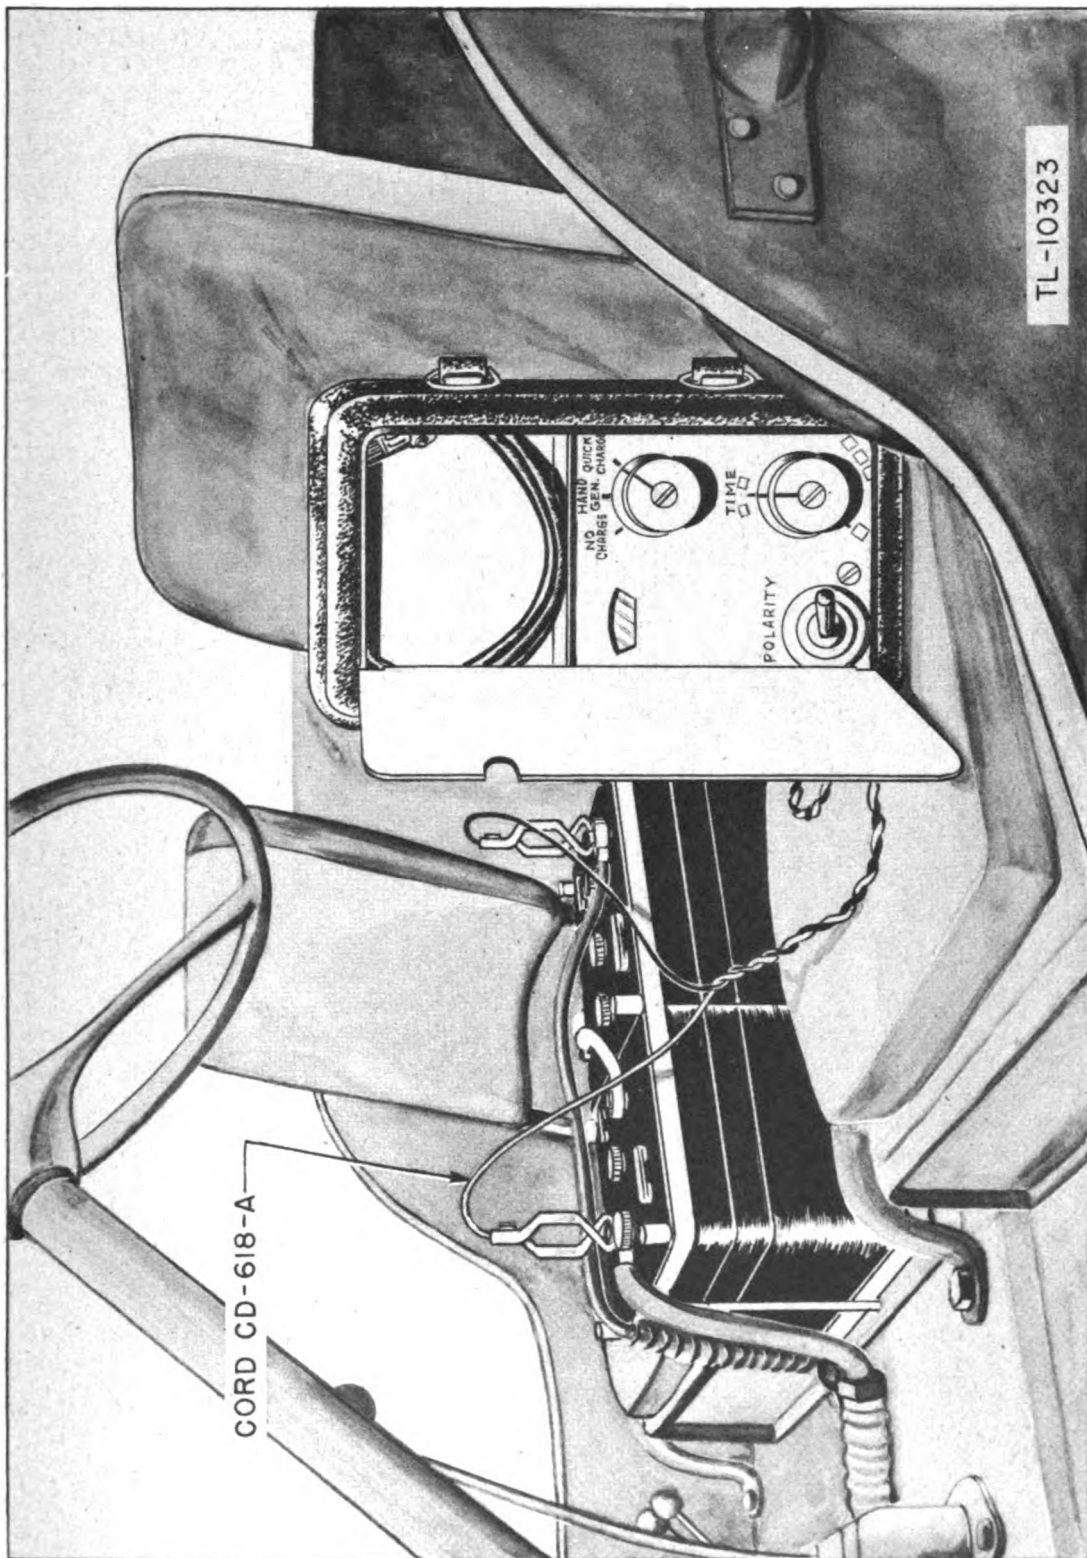

Figure 32—Charging Vibrator Power Supply PP-39/TRC-2 from Vehicular Storage Battery
Battery BB-54-A (inside of the vibrator unit) can be charged at a high rate from any heavy-duty storage battery, either 6 or 12 volts, by means of Cord CD-618-A (Figs. 32 and 33).
- c. Stand vibrator unit upright on a non-metallic surface (Fig. 32).